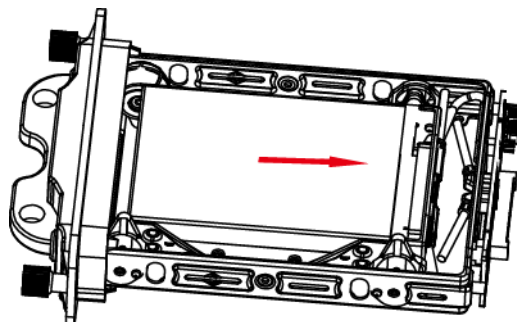

Figure 2-6 Push HDD
Step 5 Push the HDD along the direction shown in Figure 2-6 to connect HDD with socket of dummy HDD.